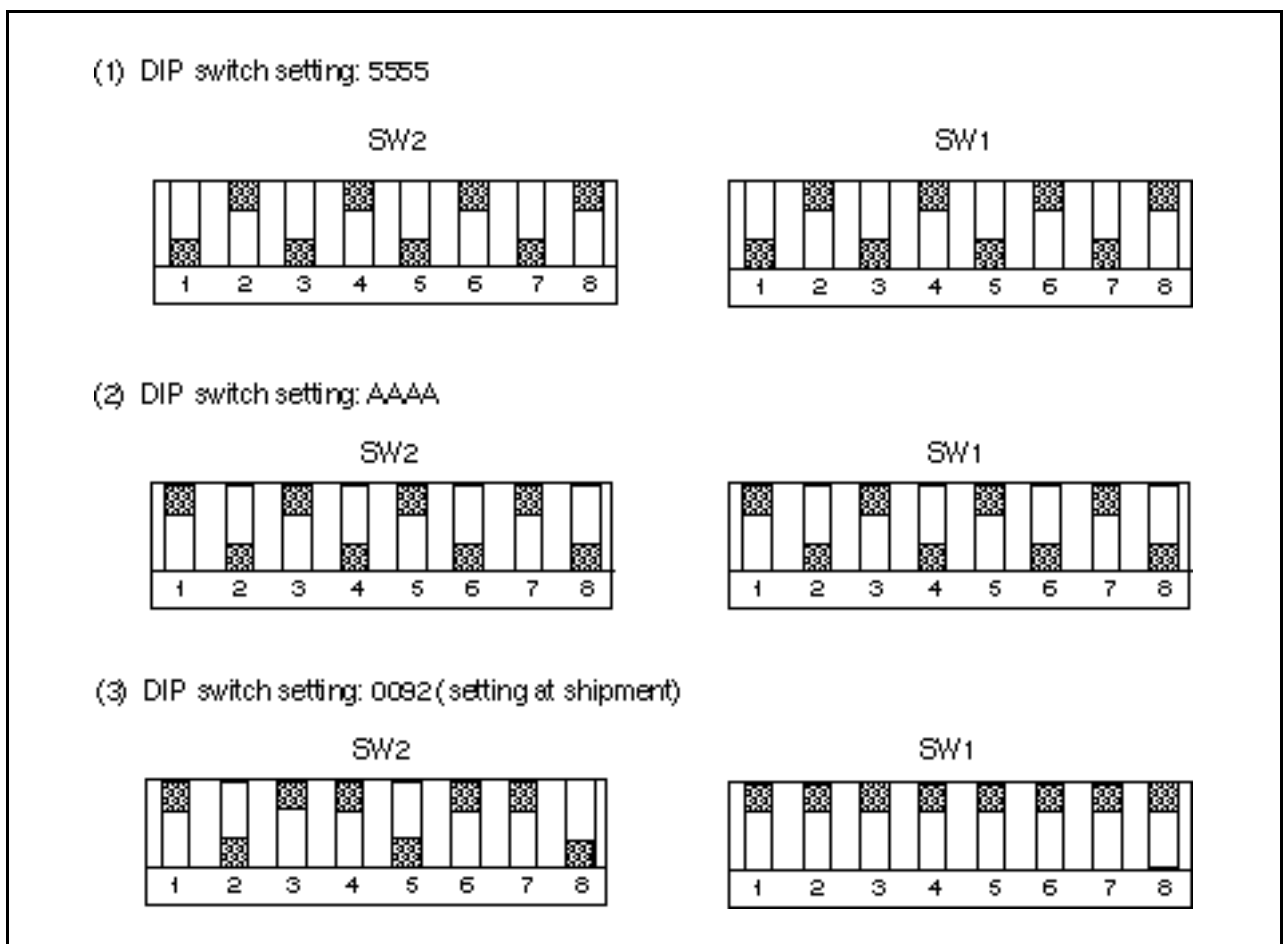

Figure 4.3 DIP Switch Settings
- (3) After setting the DIP switches as shown in figure 4.3 (1), enter Y.
- (4) If no error occurs, the following message is displayed:
- (6) After setting the DIP switches as shown in figure 4.3 (2), enter Y.
(7) If no error occurs, the following message is displayed:
(9) After setting the DIP switches as shown in figure 4.3 (3), enter Y.
(10) If no error occurs, the following message is displayed: